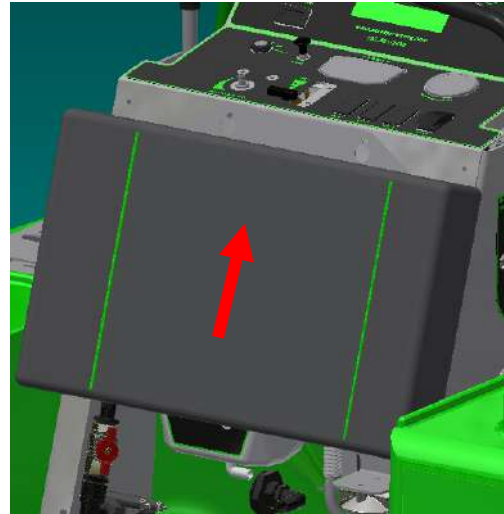

Fig 2 SG 36/42 Valve Assembly
- The orientation of the “tee fittings” depending on the machine. (Fig 1) SG 46/52, (Fig 2) SG 36/42.